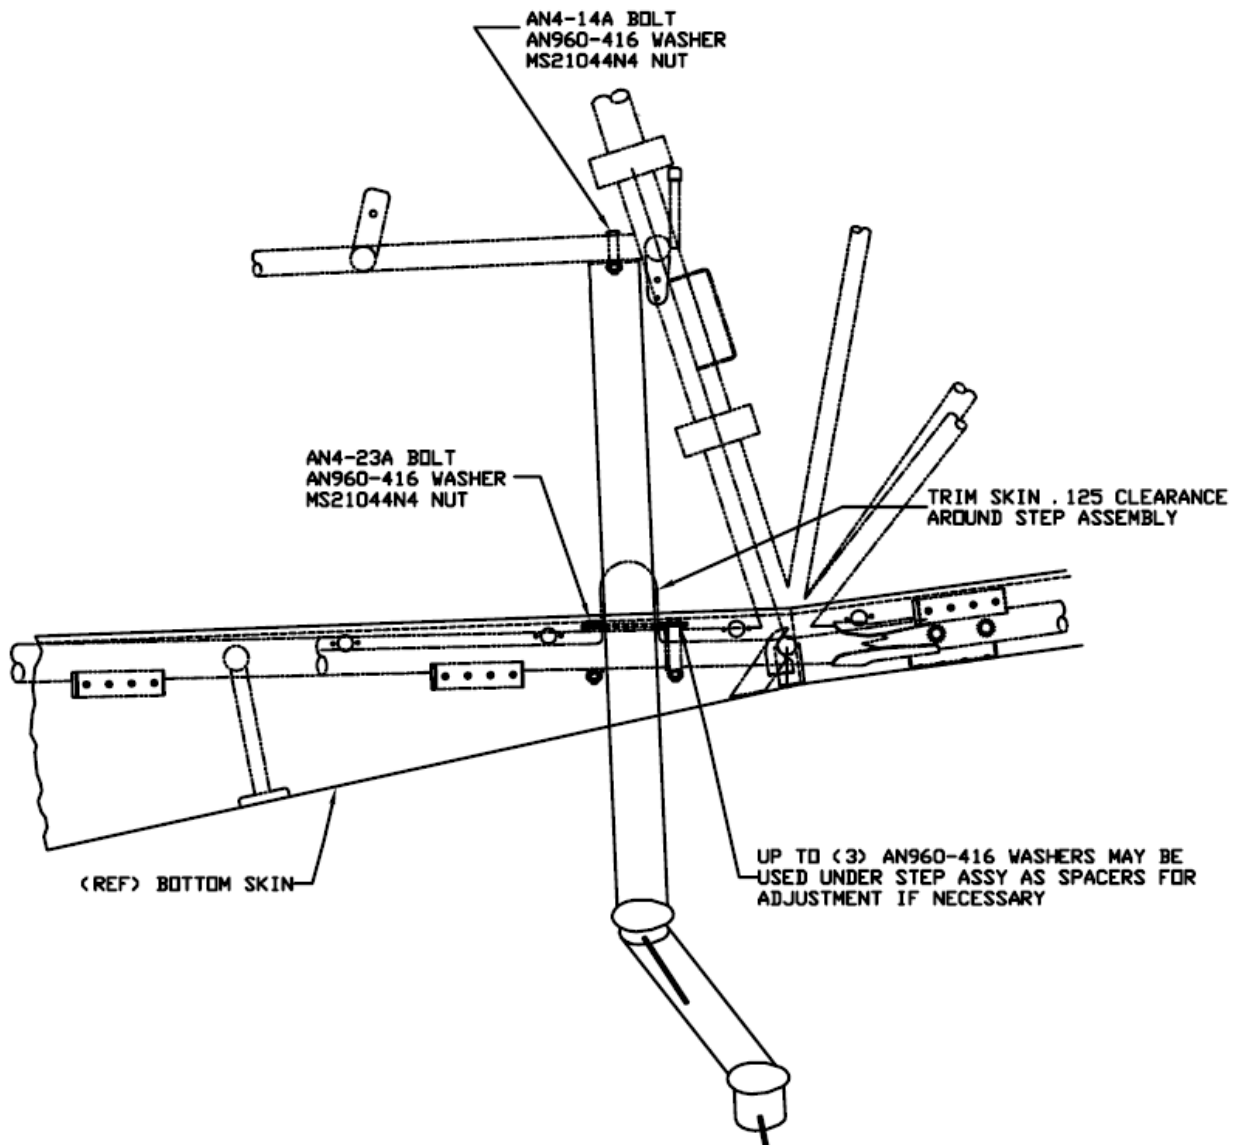

Figure 7
10. Remove skins then trim to fit, ensuring to have .125" clearance around Step Assembly then deburr. (Reference Figure 7)